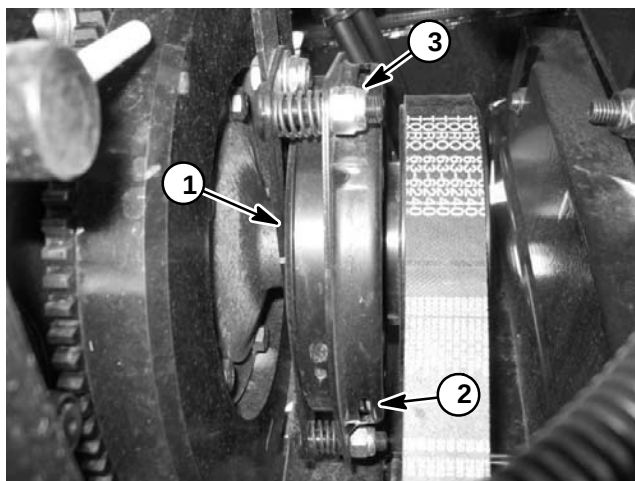

Figure 25
2. Locate electric clutch on engine crankshaft (Fig. 25). Unplug clutch connector from machine wire harness.
5. Using access slots in clutch cover, measure gap between clutch rotor and armature (Fig. 25). Gap should be from .012" to .024" (.3 to .6 mm) at all three access slots. If gap is incorrect, loosen or tighten three (3) lock nuts evenly to achieve correct, uniform gap.